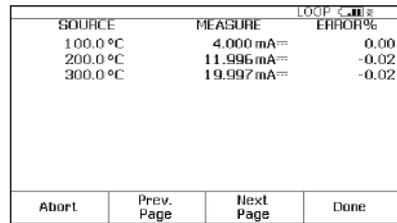

Figure 10.
- After adjustment is complete, select "As Left," "Done" and "Autotest." Watch the 0-50-100 % evaluations. If the adjustment was successful, all the errors in the post run summary should be in normal video (or less than .25 %) (Figure 10).